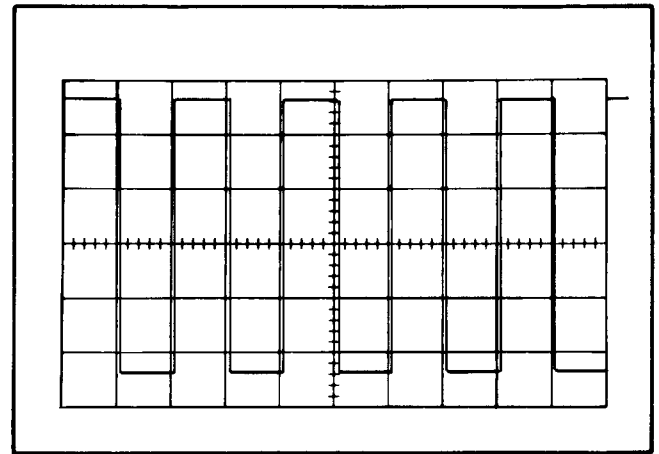

Fig. 5-2. Typical crt display showing correct vertical gain.
- Check—Crt display for exactly five divisions of deflection (see Fig. 5-2).
- Check—Crt display 5 divisions in amplitude (see Fig. 5-2).